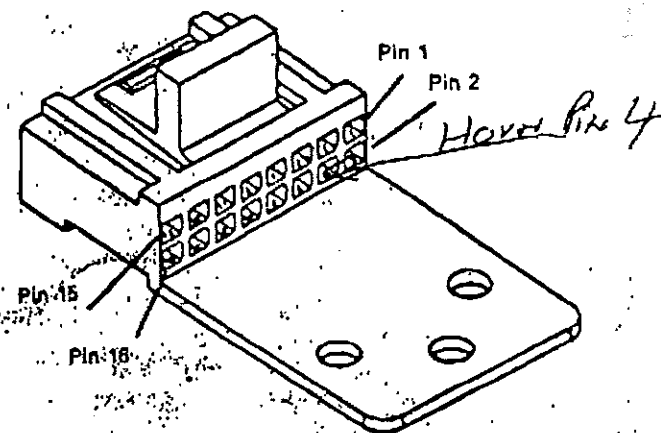

Figure 1
This section provides a description of the pin functions on the Expanded Accessory Connector. See Figure 1 to note pin locations in the connector housing.
After crimping the wire to the terminal, insert the terminal into the desired housing location. Pin locations are shown in Figure 1. Make sure the locking tab on the terminal is facing down toward the strain relief tab and that the terminal clicks into place. If required, a hardware kit can be ordered that includes 16 connector pins, an extra housing and (5) 8-inch wires with connector pins attached. Motorola part no. HLN9457.